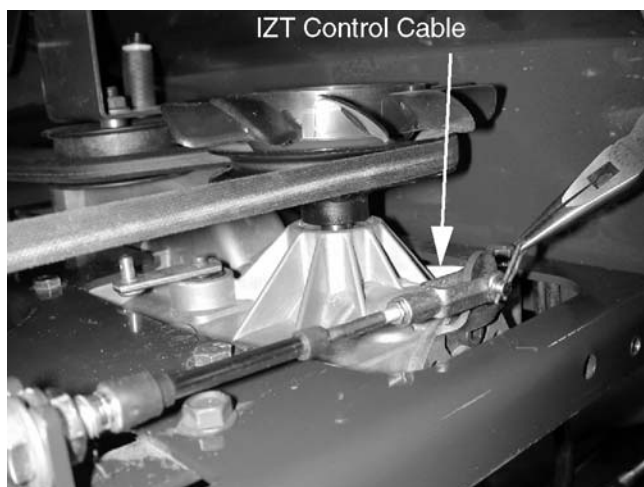

Figure 11-25
7. Remove the hairpin clip and clevis pin that holds the control cable to the control arm on the IZT. See Figure 11-25.